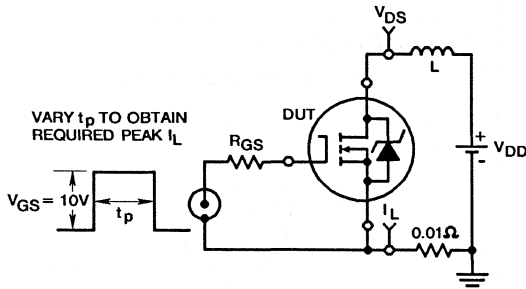

Figure 14. Unclamped Energy Test Circuit
4. V_{DD} = 50V, Starting T_J = +25°C, L = 3.3mH, R_G = 25Ω, Peak I_L = 22A (See Figures 14 & 15).